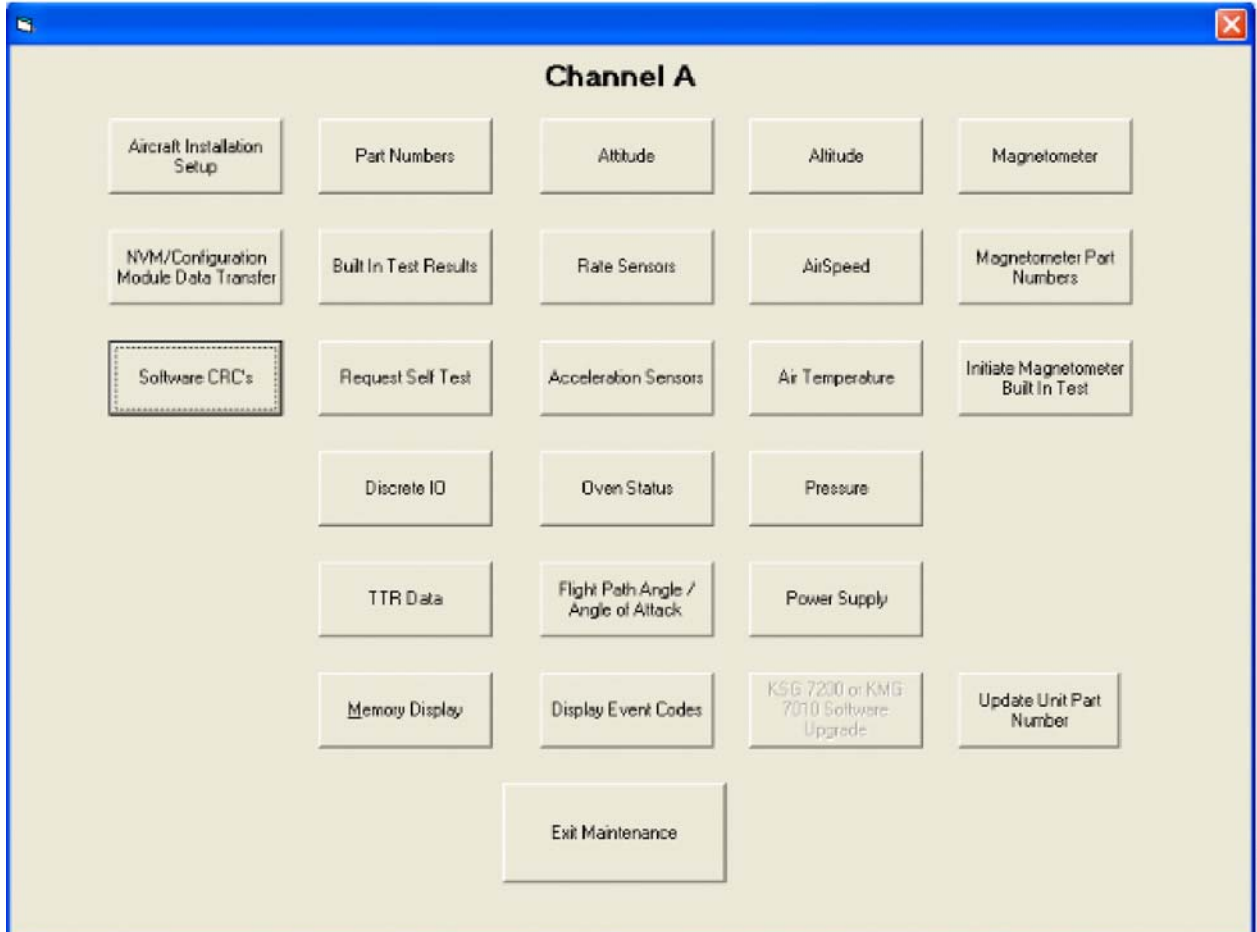

Figure 52. (Sheet 1 of 1) Channel A (or B) Maintenance Selection Window (Software CRC's)
- (5) Click the Close button to return to the Channel A (or B) Maintenance Selection window. Refer to Figure 52.